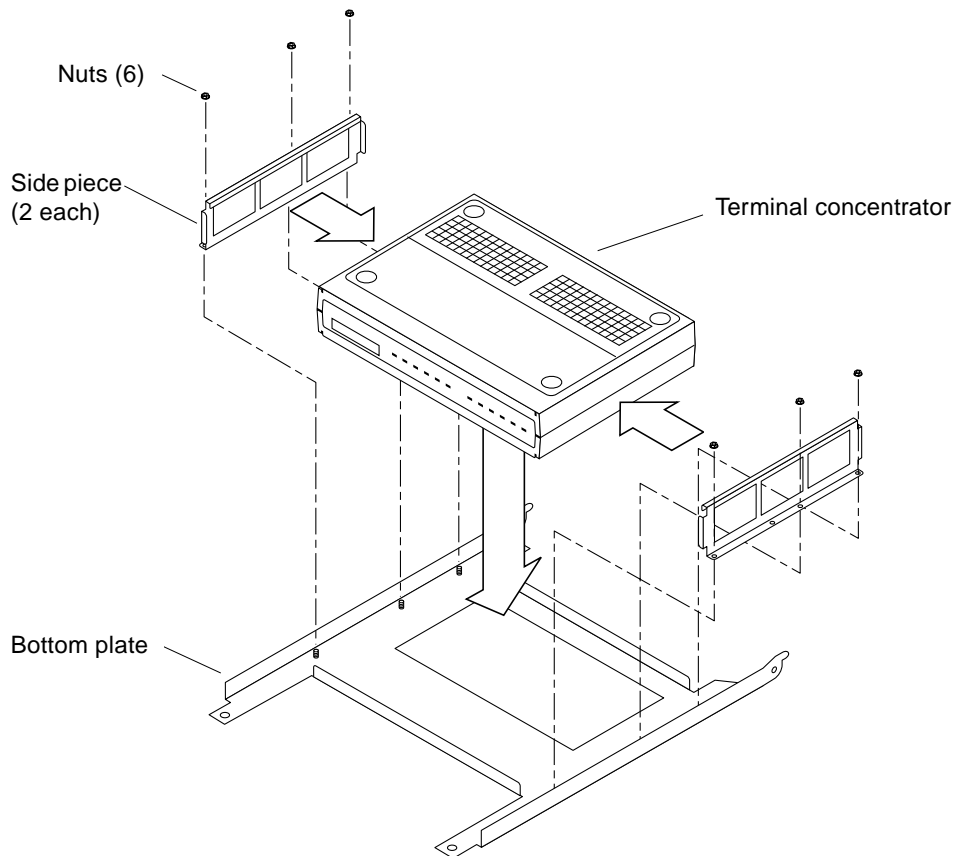

FIGURE 2-2 Installing the Terminal Concentrator Into the Bracket
- a. Place the side pieces of the bracket against the terminal concentrator, as shown in FIGURE 2-2.